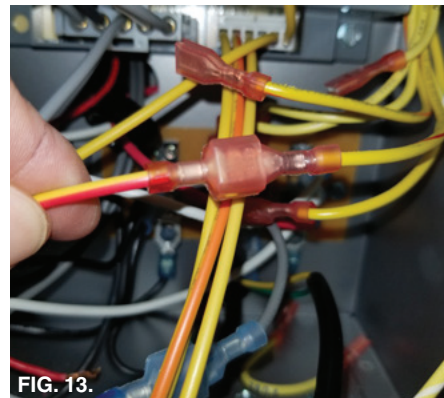

FIG. 13.
- Connect the red/yellow wire coming out of the multi-pin connector to the red/yellow wire coming from the PCBA as shown in Fig. 13.